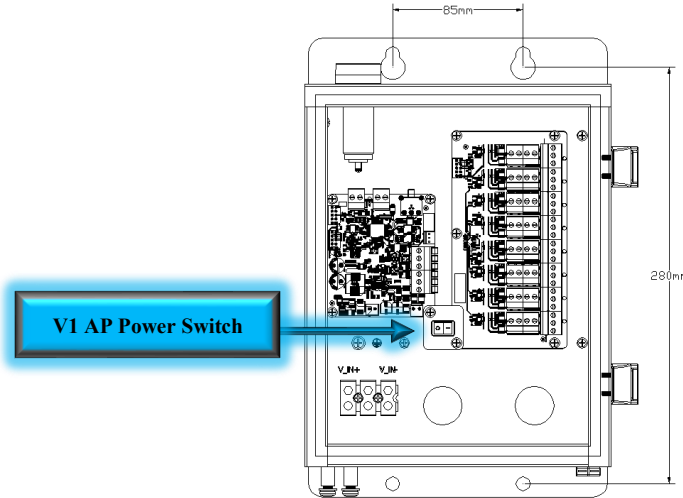

Figure 66: V1 AP Internal View and Power Switch
- Ensure the V1 AP Power Switch is in the OFF position. See Figure 66 below.